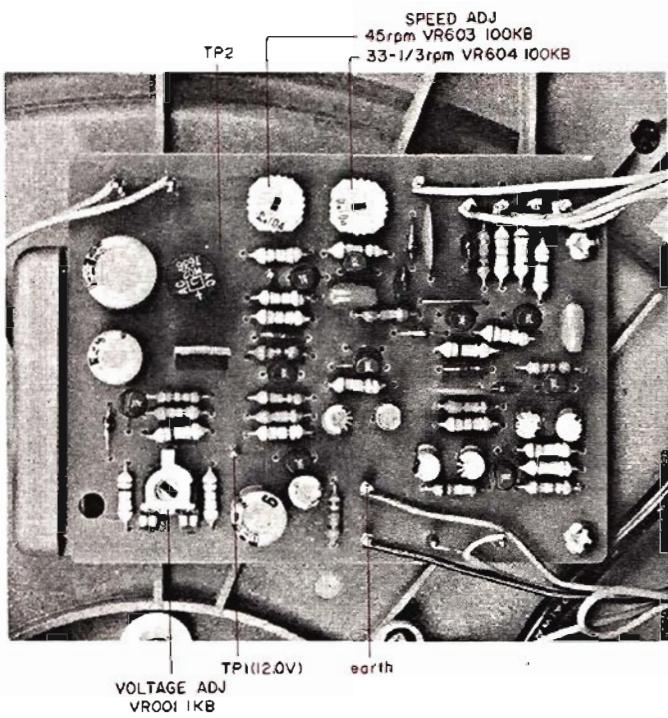

Fig. 3 Control P.C Board
ADJUSTMENT (Refer to Fig. 3)
(Refer to Figs. 3 and 4)
- 2) Observe Row 1 revolutions of Strobe markings. Adjust VR604 100 kB (Fig. 3) until Row 1 Strobe markings appear to come to a stand-still.
- 4) Observe Row 2 revolutions of Strobe markings. Adjust VR603 100 kB (Fig. 3) until Row 2 Strobe markings appear to come to a stand-still.
- 2) Observe Row 3 revolutions of Strobe markings. Adjust VR604 100 kB (Fig. 3) until Row 3 Strobe markings appear to come to a stand-still.
- 4) Observe Row 4 revolutions of Strobe markings. Adjust VR603 100 kB (Fig. 3) until Row 4 Strobe markings appear to come to a stand-still.
- 2) Connect frequency counter to TP-2 and earth (Fig. 3). Adjust semi-fixed resistor VR604 100 kB for the frequency counter to read 83.333 Hz.
- 4) Connect frequency counter as in 2) and adjust semi-fixed resistor VR603 100 kB (Fig. 3) for the frequency counter to read 112.5 Hz.